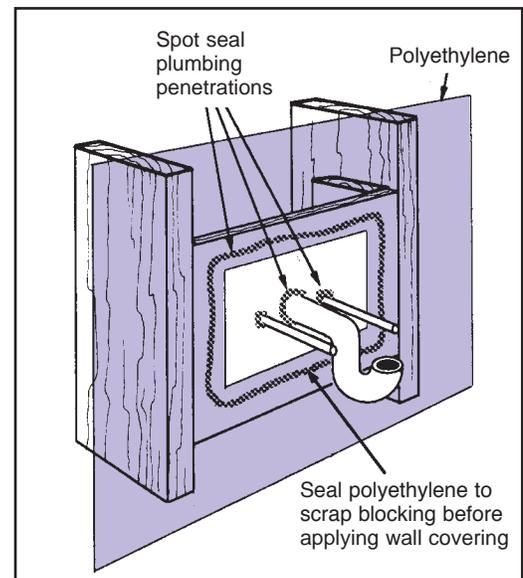

Fig. E-41: Sealing plumbing penetrations
- Plumbing pipes under sinks: Specify sealing around waterlines before gypsum board or cabinets are installed (see Figure E-41).